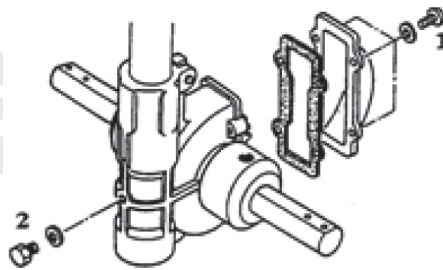

FIG.17
4. (FIG. 17) Tine Shaft/Gear Case - The tine shaft should be thoroughly cleaned and oiled with a multi-purpose oil after every twenty-five hours of operation. The tine shaft should also be lubricated prior to storage. Every 25 hours and/or at the beginning of each season, the gear case should be filled with grease. Remove the gear case cover by removing four screws (1) and the bolt (2). Fill the gear case with a lithium based multipurpose grease. Insert grease nipple into bolt hole of gear case. Squeeze tube until grease is level with the gear case gasket surface. Reinstall gear case cover with gasket and tighten bolts securely. Reinstall bolt with gasket and tighten securely.